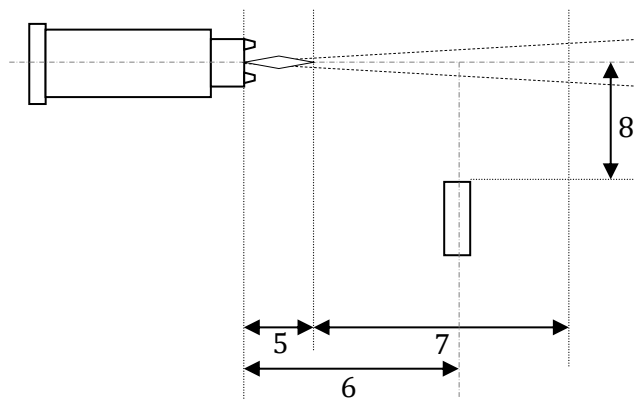

FIGURE 8 CSM EVOLUTION INSTALLATION DRAWING
**Step 7.** Position sensor head **100 mm** (8) (60mm on old system) from the plume axis (4).
**Step 8.** It is not necessary to take the reference measurements at the exact same stand-off you use for coating, as long as you keep the reference distance (6) constant over time. See Figure 8 CSM eVOLUTION installation drawing.